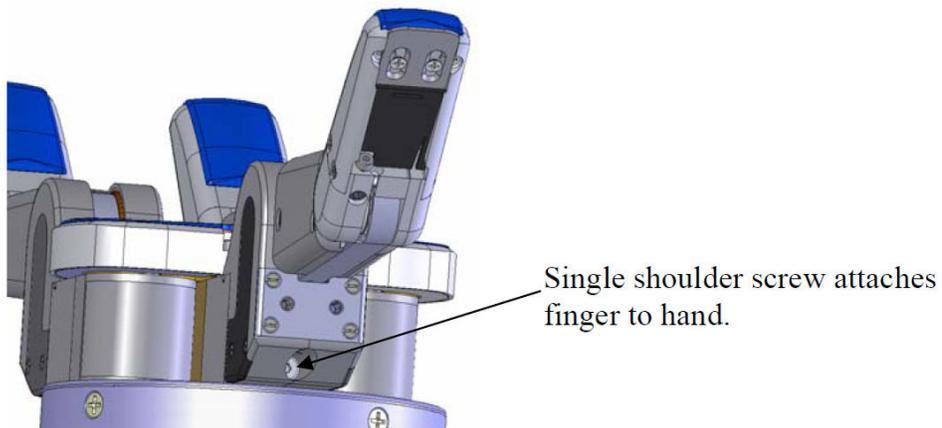

Figure 16: Locate shoulder screw
Step 3: Locate shoulder screw that connects the finger to the hand. See Figure 16.